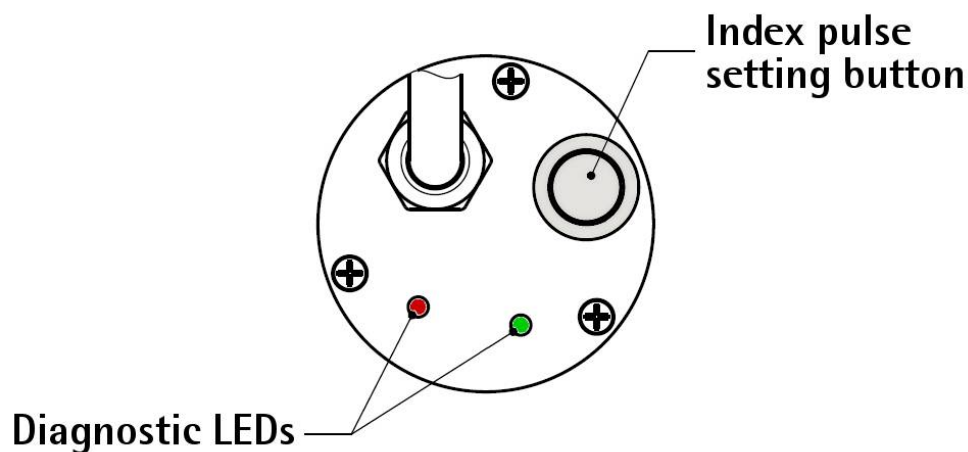

Figure 1 - Diagnostic LEDs and Index pulse setting button
It is possible to set the 0 pulse position also by either pressing the external button located in the rear side of the encoder enclosure -see the section "4.11 Index pulse setting external button (Figure 1) (IP-, CKP- models only)" on page 21 - this option is available only on IP-, CKP- models; or by means of the programming interface -see the **Index position** parameter on page 32 - this option is available on both IP- and IQ- series.
4.10 Diagnostic LEDs (Figure 1) (IP-, CKP- models only)
4.11 Index pulse setting external button (Figure 1) (IP-, CKP- models only)